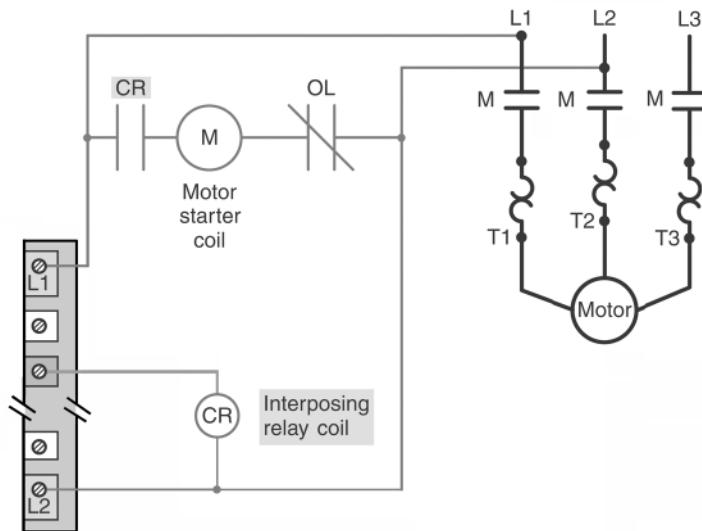

Figure 2-6 Schematic diagram for question 27.
27. The schematic diagram of Figure 2-6 is an example of how a PLC output module is connected to: